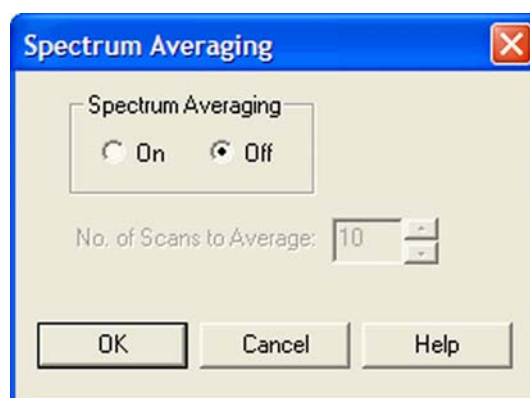

Figure 2-12. Spectrum Averaging dialog box
1. In the Tune Plus window, choose **Display > Spectrum Averaging > Settings...** to display the Spectrum Averaging dialog box. See Figure 2-12.